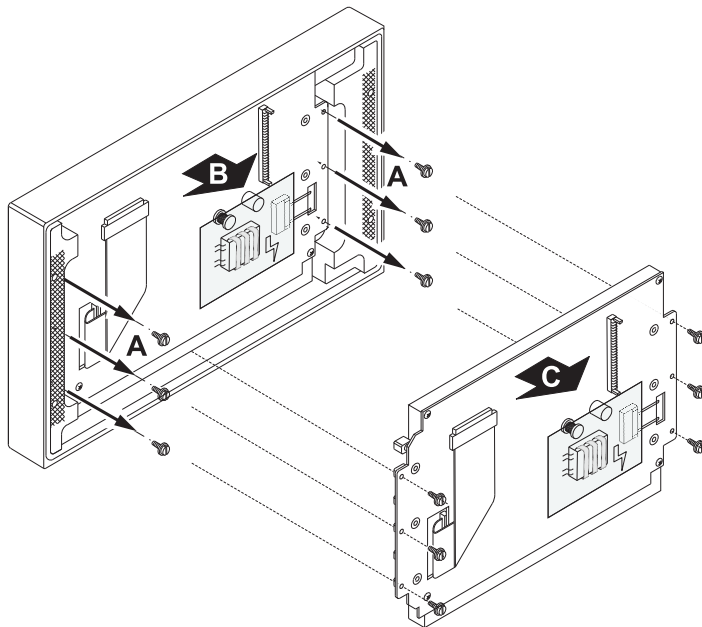

Fig. E 7-18: Removing the display assy from the front panel
5. Loose carefully the six screws fixing the display assy and store them (A). Avoid damage of any parts or any connected cables. Remove the broken display from the front panel (B, C). (Fig. E 7-18).